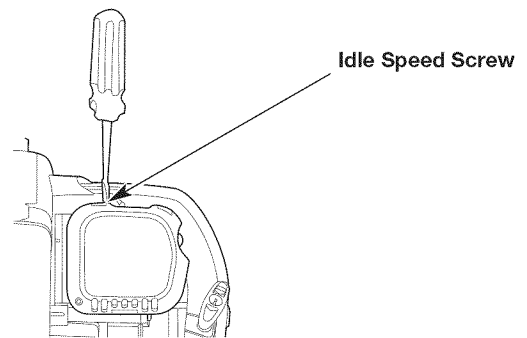

Fig. 20
2. Move the cruise control to the SLOW position and let the engine idle. If the engine stops, use a small Phillips screwdriver to turn the idle speed screw clockwise, 1/8 of a turn at a time (as needed) until the engine idles smoothly (Fig. 20).
3. If the engine is idling too quickly, turn the idle speed screw counterclockwise, 1/8 of a turn at a time (as needed) to reduce the idle speed (Fig. 20).